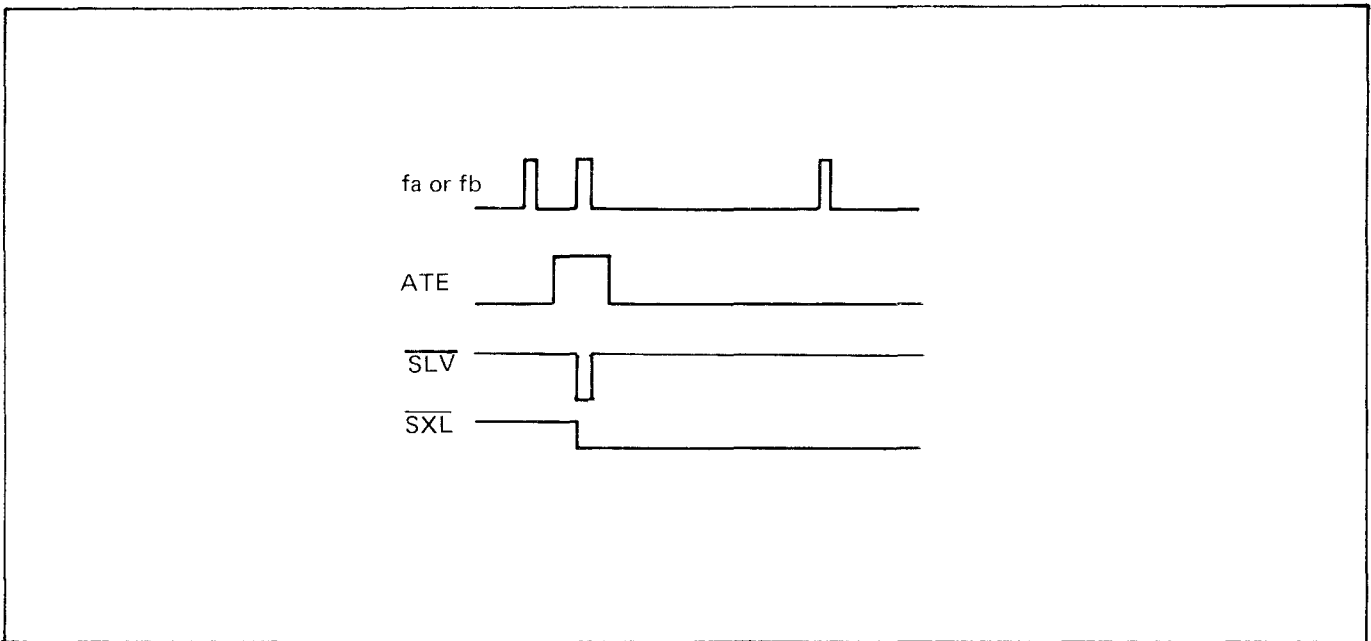

Figure 1.37 - Auto Trigger Timing Diagram
1.4.19.3 In the synchronous window mode of operation the auto trigger enable signal ATE remains low during pulses to be ignored and enables the auto trigger circuit for others. As shown in figure 1.37, only those pulses occurring when ATE is high can be seen at the signal level output.